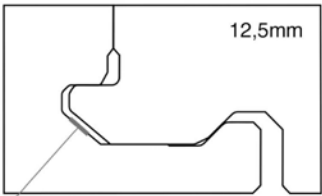

Fig. 11
- For the starting row(s), lay the first plank inside chalk line with tongue edge toward the wall. Since the stapler's magazine prevents the gun from being placed correctly, you will have to either manually nail the first row using a nail punch (being careful to maintain proper nail position as shown in Fig. 11). Make sure the starting row(s) are straight and drawn tight.